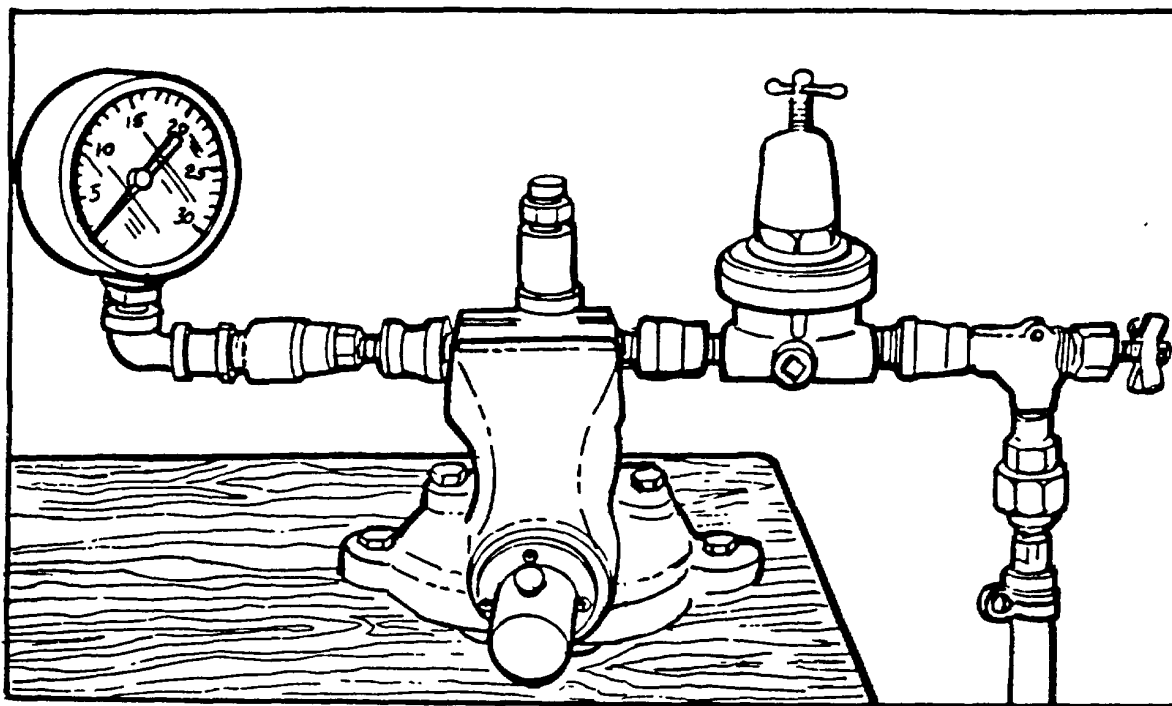

Figure 5. - Fabricated Test of Pressure Relief Valve, Type I container.
- d. Pressurize Type I container to 10 +/- 1/2 psi. (Fig. 5)